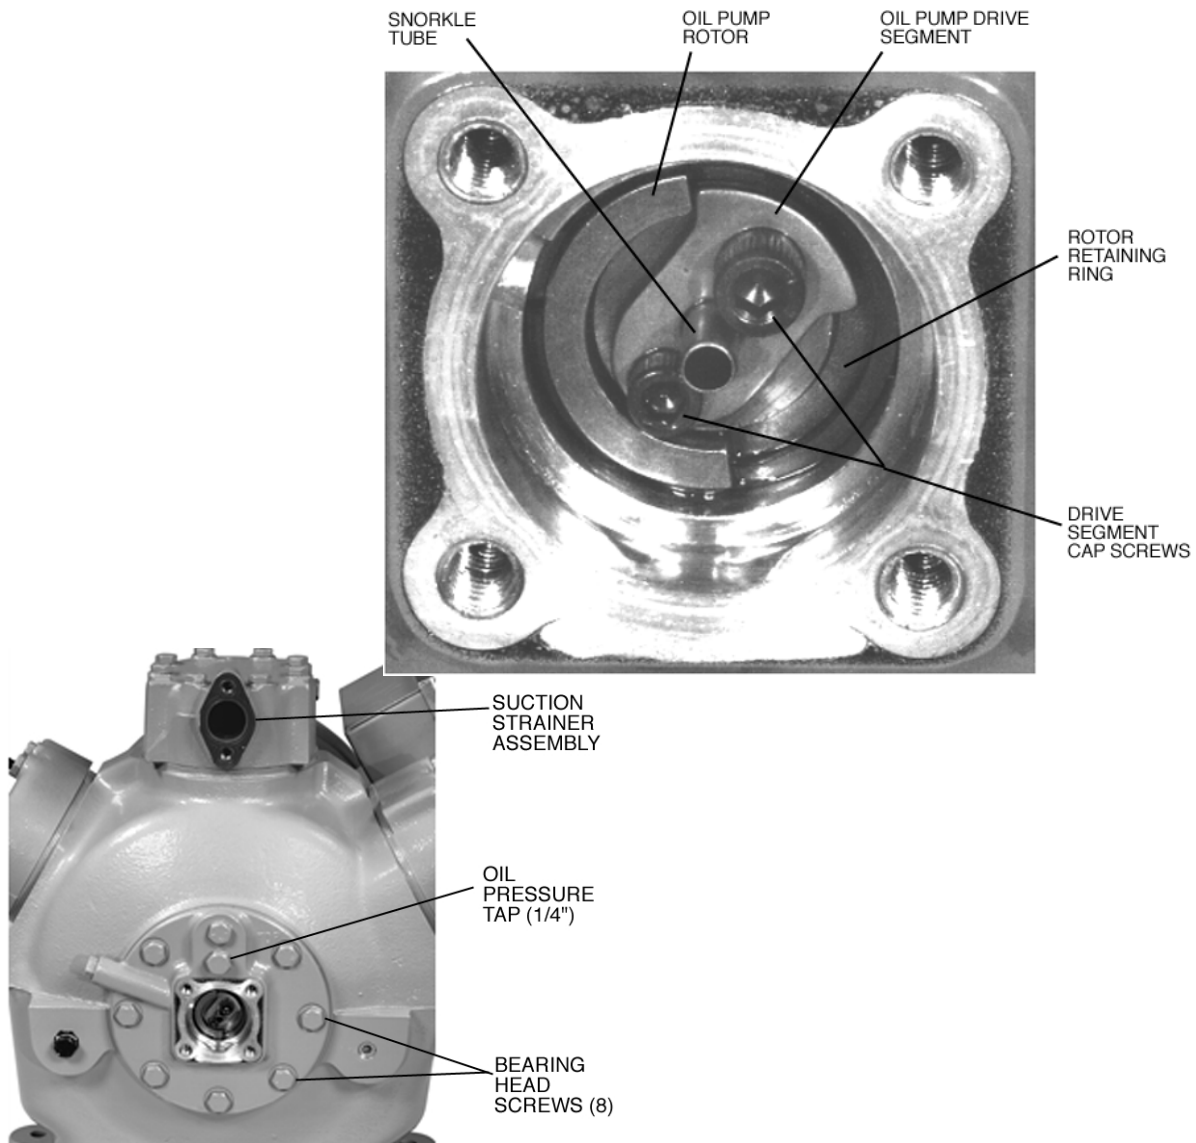
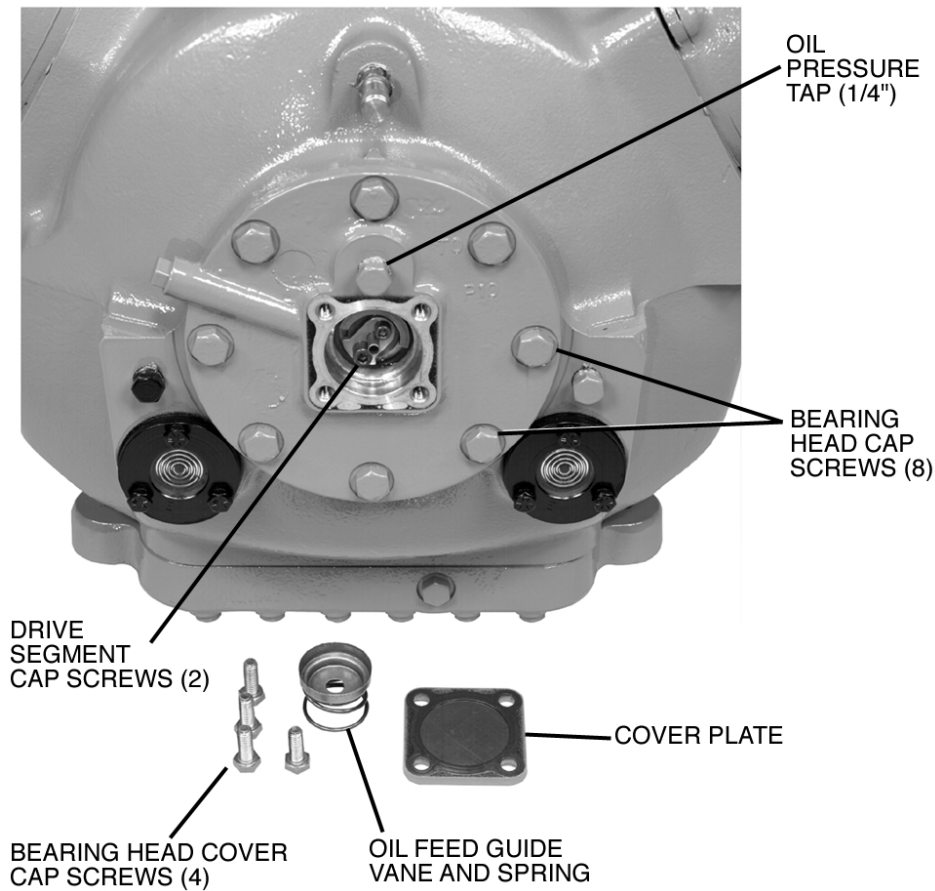

Fig. 6 — Removing Pump End Bearing Head (06D Compressor)
Fig. 7 — Removing Pump End Bearing Head (06E Compressor)
An oil pressure tap is located in the bearing head assembly used on all 06D refrigeration duty, newer 06D A/C duty, and all 06E refrigeration and A/C duty compressors (Fig. 6 and Fig. 7).
1. a. To disassemble, first remove four (4) cap screws from the bearing head cover plate and remove the oil feed guide vane and spring.
- b. Remove the two (2) drive segment cap screws from the end of the crankshaft (see Fig. 6 and Fig. 7). **These screws must be removed before the bearing head can be removed.**
2. Remove the eight (8) cap screws holding the bearing head assembly to the crankcase. Remove the bearing head assembly by pulling forward.
<p>IMPORTANT: The 1/4 in. snorkle tube should face away from the crankshaft (Fig. 6).</p>